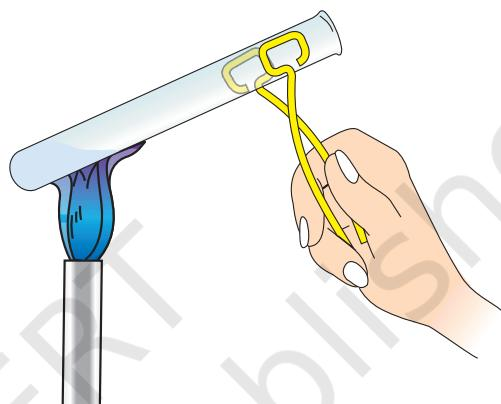

Fig. 1.1 : Correct method of heating solution in a test tube
- Do not heat the test tube containing solution with its mouth towards yourself or your neighbour as the spouting of content may harm you or your neighbour (Fig 1.1). Do not heat the test tube continuously in one position. Keep it moving and shaking while heating so that heating is uniform.